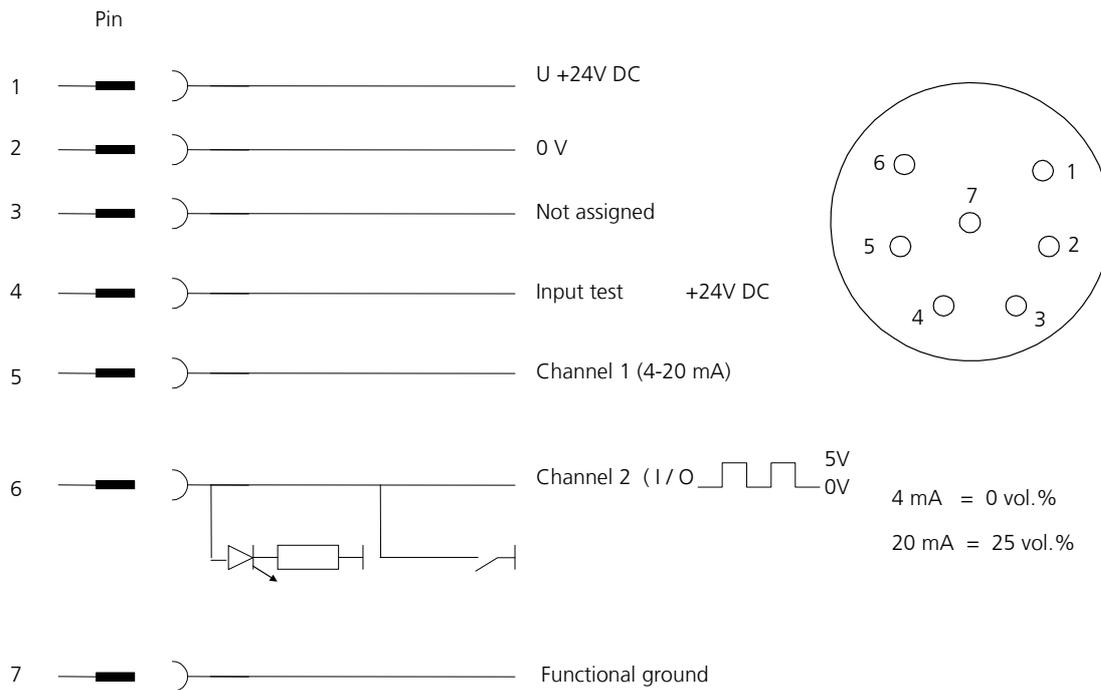

Fig. 3: Pin assignment
The measuring system and central unit must be connected with a permanent, microbe-proof, seven-core, shielded cable (diameter 9-11 mm) (see Fig. 3). Do not lay this line next to a high-tension power cable as there is a danger of radiated interference. The cable must be capable of withstanding the anticipated mechanical, chemical and thermal stresses. The power supply must be designed such as to guarantee the maximum switch-on current of 950 mA (when the oxygen measuring system is in a cold state).
For basic operation connect the oxygen measuring system to the electric circuit via Pin 1, Pin 2 and Pin 7 (see Fig. 3) and read the measured data via Pin 5 (4-20 mA) for example with the help of a measuring instrument, a display or a PLC (programmable logic controller).
The measuring system is designed such that no additional calibration is required even if the device is in operation for a long period of time. If required, electrical calibration is possible, but only if Pin 6 (channel 2, see Fig. 3) is connected. If there is a voltage cut-off, the newly calibrated value will return to the factory settings.
- Close switch S (Pin 6 or channel K2) for at least 10 seconds by means of a downstream device (see Fig. 3). The oxygen measuring system will now calibrate itself.
The oxygen measuring system is designed such that it can check that it is functioning correctly during operation. For this purpose Pins 4 and 6 must be connected (see Fig. 3). Ideally, the function test is carried out cyclically.